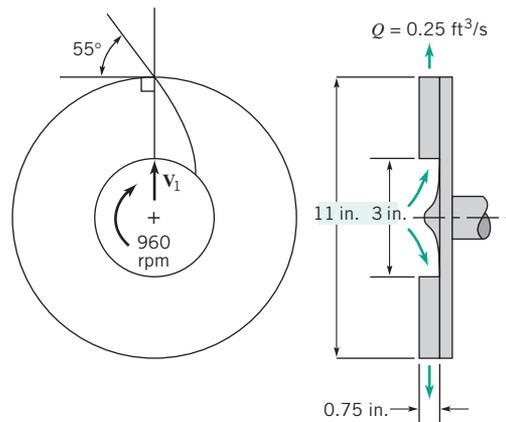

FIGURE P11.11
11.11 A centrifugal radial water pump has the dimensions shown in Fig. P11.11. The volume rate of flow is 0.25 ft3/s, and the absolute inlet velocity is directed radially outward. The angular velocity of the impeller is 960 rpm. The exit velocity as seen from a coordinate system attached to the impeller can be